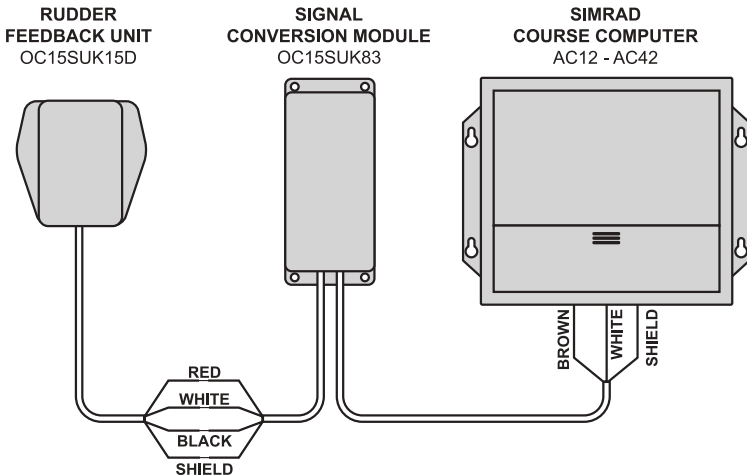

Fig C4 - RFB connections - Simrad Autopilots
- iii) Connect the RFB Module, Signal Conversion Module and Autopilot Course Computer together as shown in Fig C4. Use a marine grade electrical connection strip and ensure the wires are properly insulated and protected.